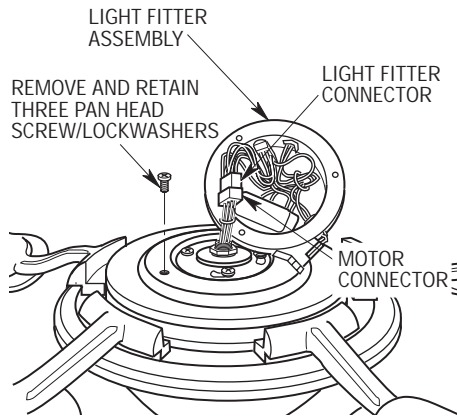

Figure 4
- 7. Carefully rest the light fitter assembly on the adapter, then engage the light fitter connector with the motor connector (Figure 4). The two connectors are keyed and color-coded and must be mated correctly (color-to-color) before they can be engaged. Make sure the connectors are engaged properly.
- 8. Remove and retain the three outer screw/lockwashers from the light fitter adapter (Figure 4).